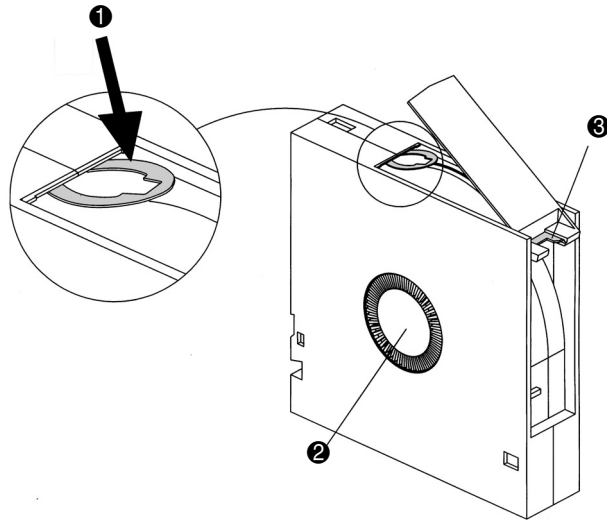
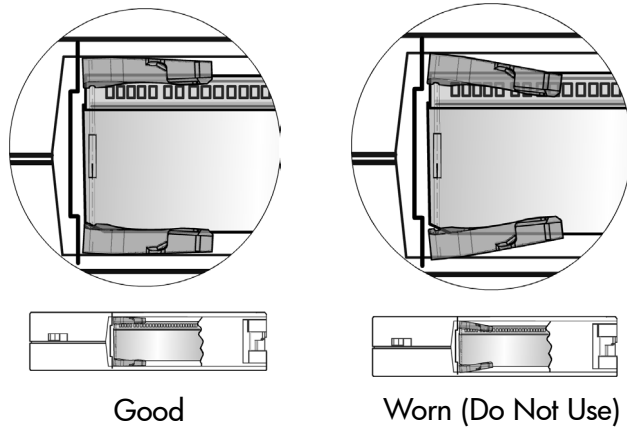

Figure 74: DLT leader in correct position, hub, and door lock tab
Figure 76: SDLT buckle leaders
- Verify that the spring-loaded hub (② in Figure 74 on page 125) is centered within the circular opening on the bottom of the tape cartridge.
- Visually inspect the tape for a broken, unseated, or misaligned tape leader (① in Figure 74 on page 125 and Figure 76 on page 126). If the loop at the end of the leader is not presented correctly, the drive can fail to engage, or drop, the leader. If used, a dropped leader cartridge can damage the drive.
Press in the door lock (③ in Figure 74 on page 125) to release the cartridge door. While pressing in the door lock, push the tab down to open the door. Be careful not to touch the tape after opening the door. Ensure that the leader is in the correct position (① in Figure 74 on page 125 and Figure 76 on page 126).